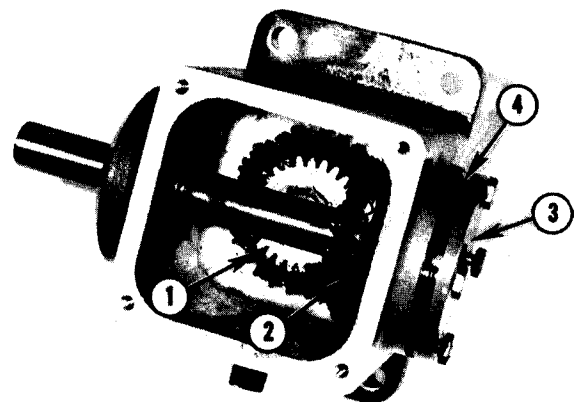

FIG. 10.17--ADJUSTING GEAR BACK-LASH
22. Install plate with shims then check gears backlash. Back-lash in gear should be .002"-.005". Add or remove shims to obtain correct gear back-lash. Fig. 10.17.